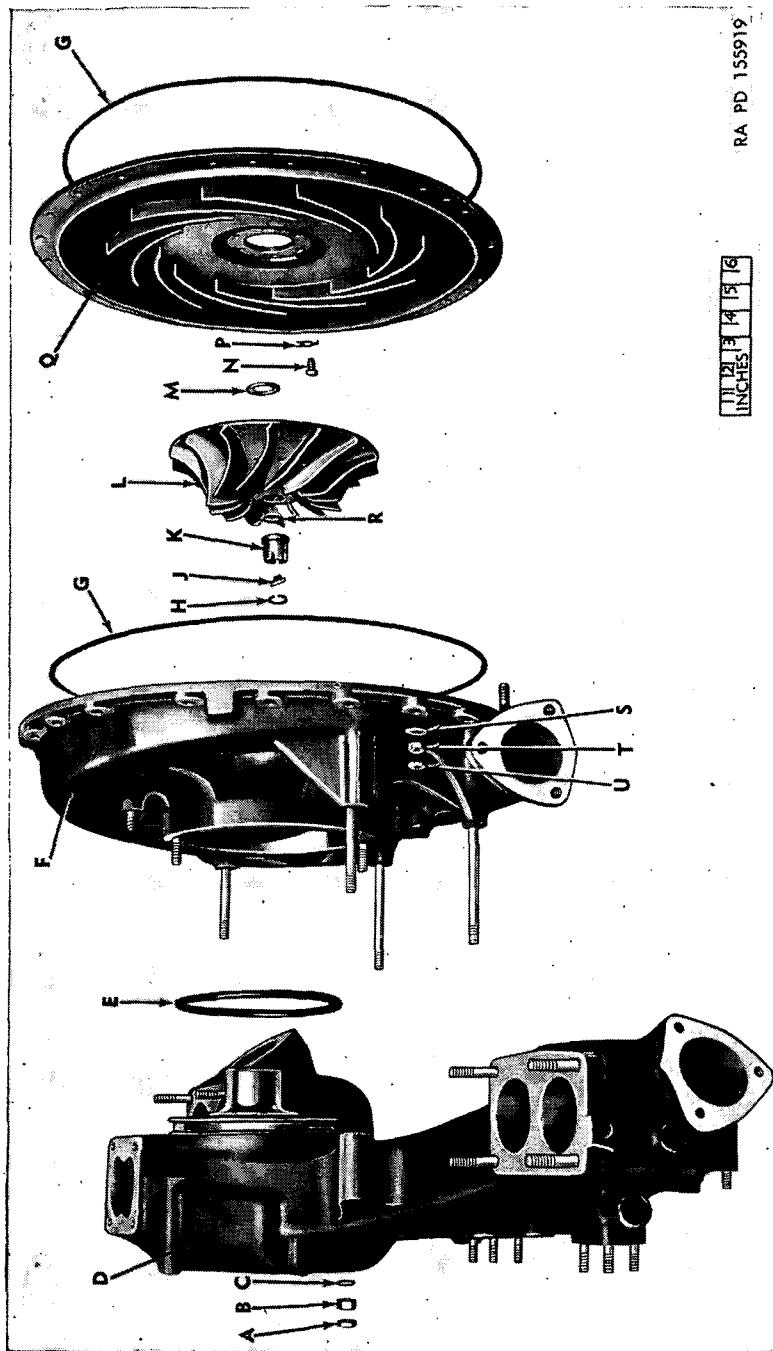
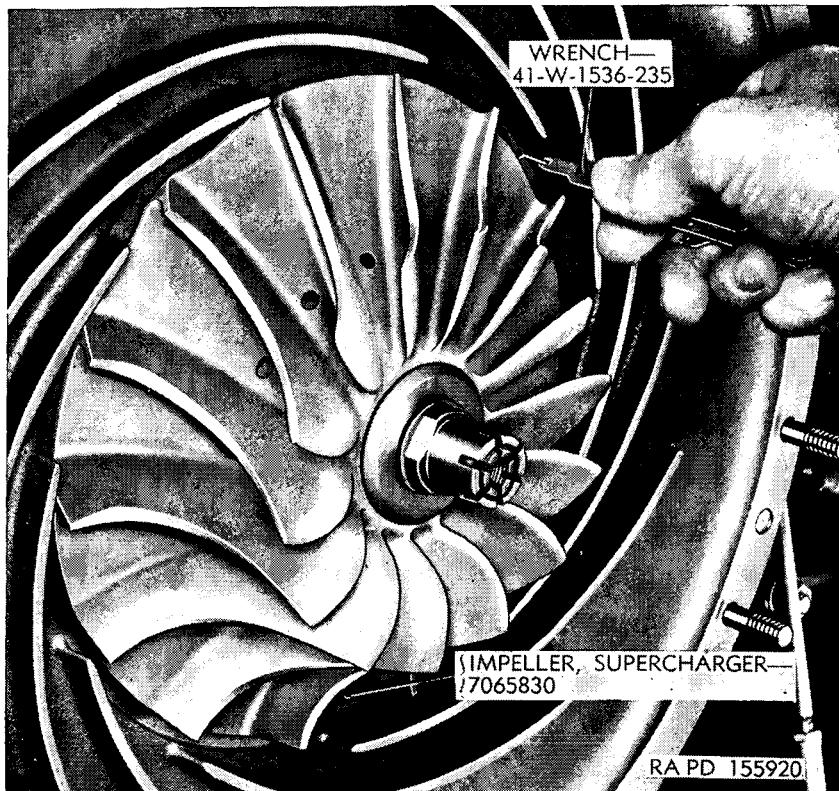
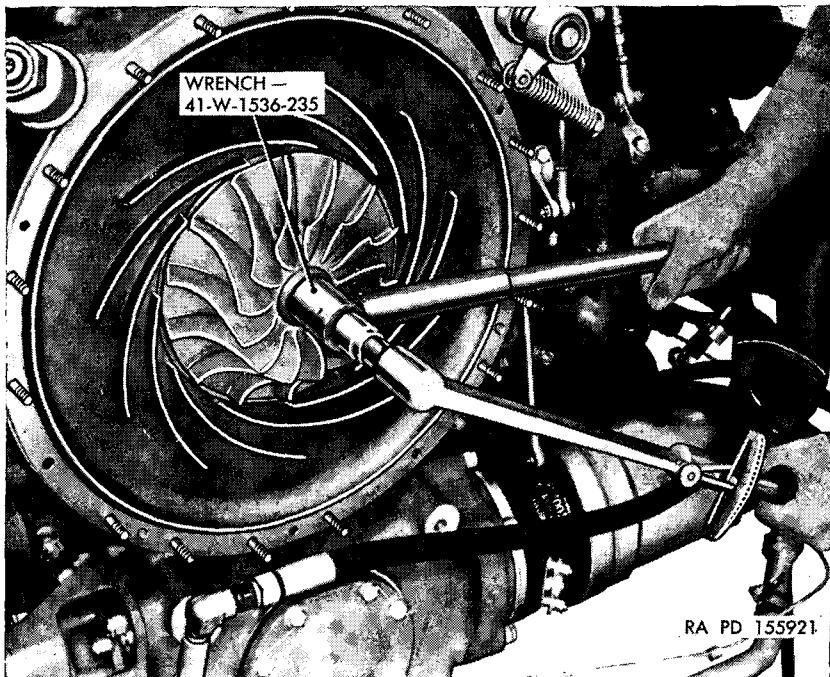

Figure 49. Supercharger and carburetor elbow—exploded view.
Figure 50. Checking clearance between supercharger impeller and diffuser.
Figure 51. Tightening impeller nut.
- (16) Install supercharger diffuser (Q) with a new "O" ring gasket (G, fig. 49). Secure both the diffuser and the impeller driven gear oil seal housing with six tab wash-
- (17) Install the supercharger impeller spacer (A, fig. 38) and impeller shim (M, fig. 49). Then install the supercharger impeller on the shaft end of the impeller driven gear (HH, fig. 38), using wrench 41-W-1536-240 (fig. 32). Check clearance between the supercharger impeller and diffuser (fig. 50). A clearance of 0.030 to 0.035 inch must be obtained by the selection of shims.
- (18) Install plain washer (R) and slotted impeller locking nut (K, fig. 49) on the shaft end of the impeller driven gear (HH, fig. 38), using wrench 41-W-1536-235 (fig. 51). Tighten to 700 lb-in torque. If the lock slots in the nut do not line up with the lock slots in the impeller driven gear, it will be necessary to lap the seating surface of the nut until the slots do line up at 700 lb-in torque. The impeller nut lock (J, fig. 49) must not be forced into the lock slots in the driven gear. Install lock and the impeller nut locking ring (H, fig. 49). Turn the accessory case gear train by hand to make sure